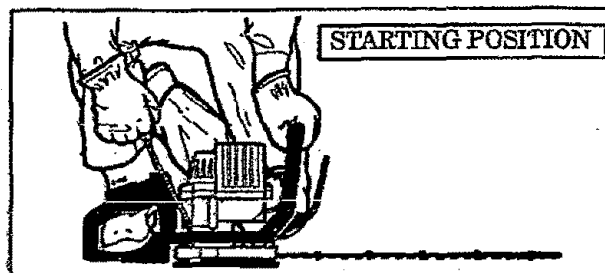

Figure 1
- Rest engine on the ground. Support the unit so the blade is off of the ground and away from trees, bushes, onlookers, etc. Figure 1.